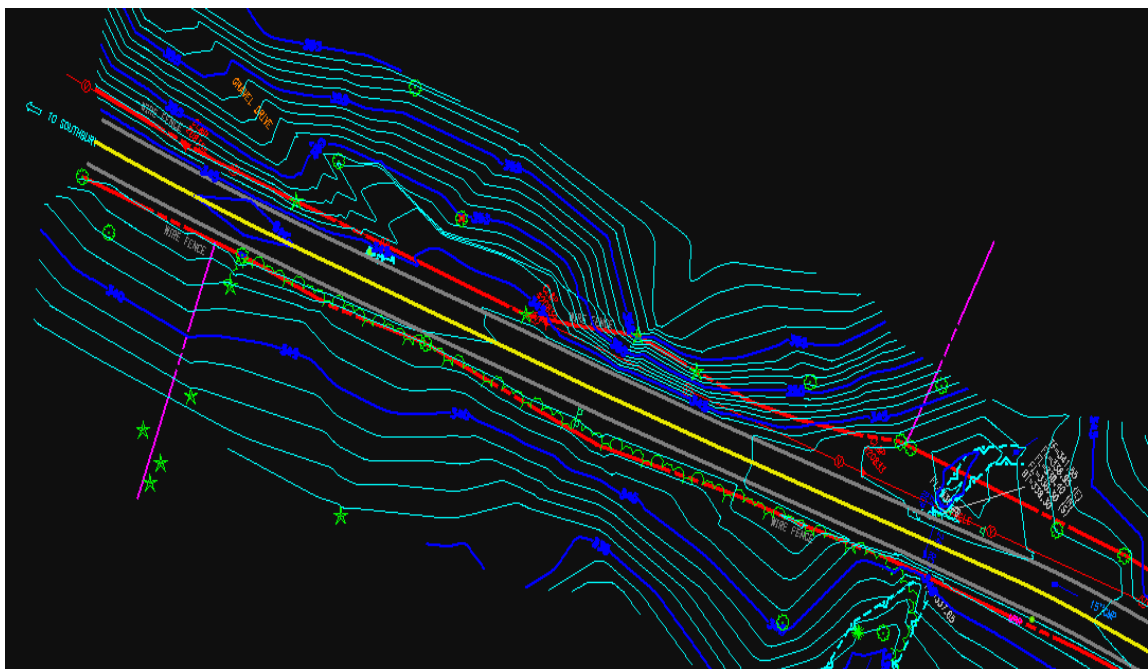

Figure 2-6 MicroStation View of InRoads Generated Contours
- K. In the View Contours Box for Surface: select **existing**. Then click the **Apply** button. Notice the contours within the ground file (Figure 2-6).